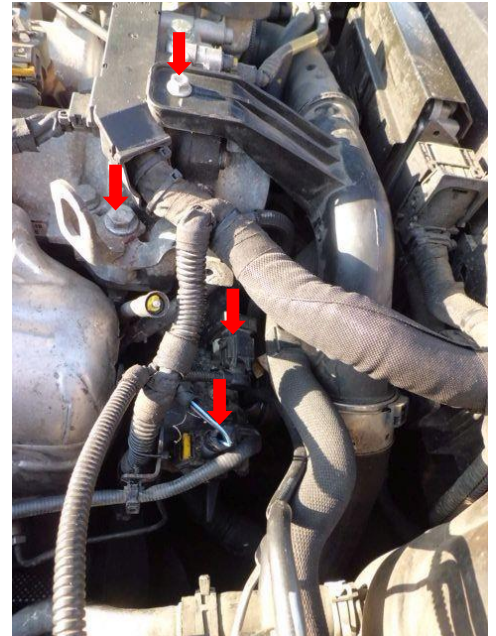

Figure 3
- Remove the mountings for the charge air pipe and the wiring harness and disconnect the wiring harness connector (Figure 3) Unscrew the connector receptacle bracket from the AGR radiator housing